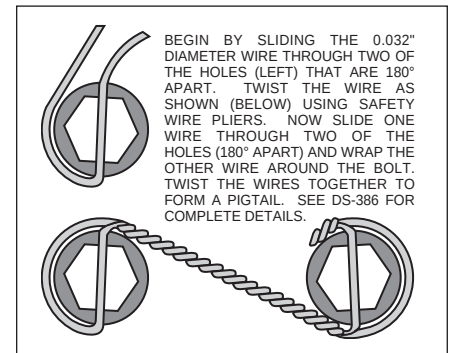

Figure 4. Safety Wire Diagram
- Slide the rotor registration adapter (16) onto the axle register on the axle flange with the smaller O.D. facing toward the hat (7)
- With the larger I.D. side of the rotor (6) facing away from the hat (7), attach the rotor (6) to the hat (7) using washers (8) and bolts (9) as shown in Figure 1. Using an alternating sequence, apply red *Loctite*® 271 to the threads and torque bolts to 25 ft-lb. For an added measure of security, the bolts may be safety wired using standard 0.032 inch diameter stainless steel safety wire as shown in Figure 4. -- Please refer to Wilwood's data sheet DS-386 (available at www.wilwood.com/Pdf/DataSheets/ds386.pdf) for complete safety wire installation instructions.